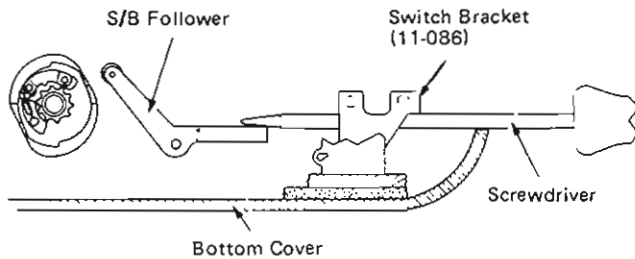

Figure 1
2. (Carrier Return) Remove index link. (Spacebar) Move machine forward in bottom cover. Insert screwdriver under switch bracket and over cam follower, as shown, to raise cam follower roller (Figure 1).